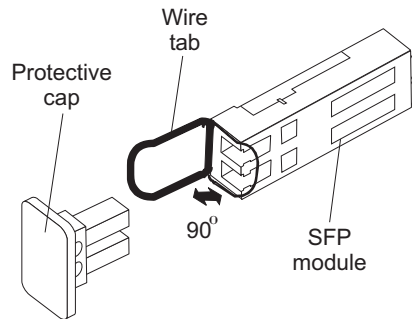

Figure 25. Unlocking the SFP module latch - wire variety
- For SFP modules that contain wire tabs, unlock the SFP module latch by pulling the wire latch outward 90°, as shown in Figure 25.